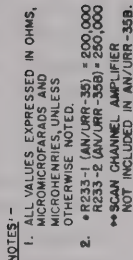

Figure 2-7. I-F Amplifiers, Scan-Channel Amplifier and INPUT Meter Circuit, Simplified Schematic Diagram
(1) FIRST INTERMEDIATE-FREQUENCY AMPLIFIER.—The i-f signal from the mixer stage of the r-f amplifier section is link-coupled into transformer T201. This transformer, tuned to resonance at 18.6 mc, feeds the grids of both the first i-f amplifier, V201, and the scan-channel amplifier, V202; see figure 2-7. The first i-f amplifier is a 5654/6AK5W pentode. AGC voltage is applied through resistor R201 and the transformer to the grid of the i-f amplifier. The AGC system is decoupled from the i-f signal by resistor R201 and capacitor C201-A. The plate and screen voltages for V201 are obtained from the +180-volt supply through the i-f gain control, R233. Screen voltage is supplied from this potentiometer through
(2) SCAN-CHANNEL AMPLIFIER.—The scan-channel amplifier, V202, is a 5654/6AK5W pentode amplifier; see figure 2-7. The i-f signal is coupled from transformer T201 to the control grid of V202 through capacitor C203. Resistor R203, connected between the control grid of the scan-channel amplifier and ground, is the grid-leak resistor. Cathode bias is supplied by means of resistor R202 and capacitor C206-B. Plate and screen voltages are supplied to this stage through r-f chokes L201 and L206, and through resistor R204 from the +105-volt source. Capacitor C206-A serves as the screen-grid bypass. The plate-load resistor, R208, is tied between the plate and the screen grid, so that the output voltage is developed across resistor R208 only, not across both R208 and R204. Capacitor C247, along with r-f chokes L201 and L206, decouple the power supply from the signal in V202. The output of this stage is taken from load resistor R208, and applied through capacitor C204 to P201, a connector located in the rear apron of the receiver chassis. When not in use, the scan-channel output is terminated by a 47-ohm resistor located in terminating cap E401, at the rear of the low-pass filter.
(3) SECOND OSCILLATOR.—V203-B, one half of a type 5670 tube, is used as a crystal-controlled triode oscillator in order to create a heterodyning signal for the second of the two frequency conversion in this radio set; see figure 2-7. The crystal, Y202, is a type CR-23/U crystal, cut to have a nominal frequency of 16.8250 mc. Grid-leak bias is supplied for the oscillator tube by resistor R209, connected from the control grid to ground and in parallel with the oscillator crystal. Plate voltage for the stage is supplied from the +105-volt source to the plate by way of oscillator transformer T203. The output signal is applied to the mixer stage from a tap on the transformer coil. The oscillator may be tested by measuring the grid voltage developed across grid resistor R209 at test point J202. This test point is connected to the common connection of the grid, the grid-biasing resistor and the crystal, through resistor R210. Resistor R210 and capacitor C244 form a low-pass filter, which isolates the grid circuit from the meter used to measure the grid bias. The sine-wave signal applied to the grid by the oscillator crystal is amplified in the tube and applied to transformer T203. A portion of the signal is applied from a tap on the transformer winding (for impedance matching) to capacitor C208, and from this capacitor to the cathode of the mixer.
(4) **SECOND MIXER.**—The second mixer, V203-A, is one half of a 5670 twin-triode tube, as shown in figure 2-7. The i-f input signal is applied through the secondary winding of i-f transformer T202 to the control grid of the mixer, and the oscillator injection voltage is applied to the cathode. Resistor R266, in the grid circuit, tends to prevent spurious oscillation, while cathode resistor R211 serves as the point of oscillator injection. Plate voltage is supplied to this stage through resistor R212 and i-f transformer T204. Resistor R212 and capacitor C209 decouple the power supply from the i-f signal in transformer T204.
(5) **SECOND AND THIRD INTERMEDIATE-FREQUENCY AMPLIFIERS.**—The components and circuitry of the second and third i-f amplifier stages are almost identical; see figure 2-7. The essential difference between the two i-f amplifier stages is that the gain of the second i-f amplifier stage is controlled by the AGC voltage, while the third i-f amplifier stage is self-biased.
(6) **"INPUT" METER CIRCUIT.**—INPUT meter M501 is provided to indicate the approximate incoming signal strength. It also serves as an alignment indicator for the oscillator-multiplier section when switch S201 is placed in the ALIGN position. The meter circuit is shown in figure 2-7. One side of meter M501 is connected through a low-pass filter, consisting of R216 and C213, to the junction of resistors R214 and R215 in the screen-grid circuit of the second i-f amplifier, V204. The other side of the meter is connected through a similar filter (R217 and C214) to the wiper arm of INP. MTR. potentiometer R218. Potentiometer R218, along with resistors R224 and R225, is connected in a voltage-divider network between the +180-volt supply and ground.